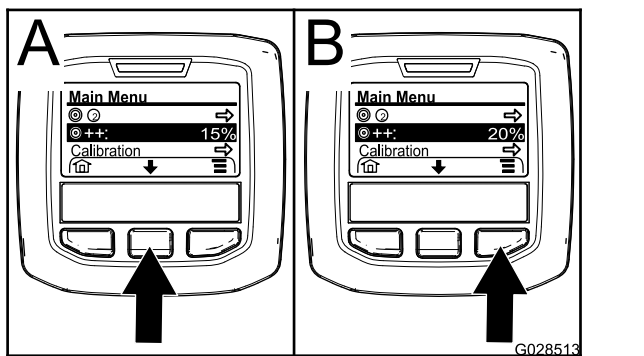

Figure 68
- If needed, press the center selection button to highlight the application rate boost (Figure 68).
**Note:** The icon for the application rate boost look 2 (+) signs to the right of a bull's-eye target (Figure 68).
- Press the right selection button (Figure 68) to increase the boost percentage in 5% increments (20% maximum).